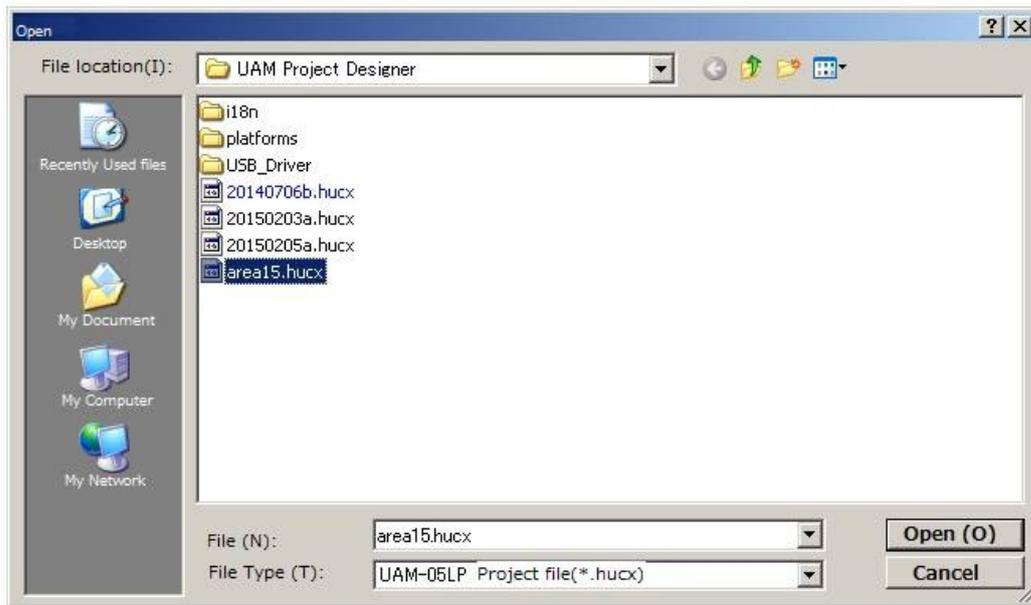

Figure 7-53 Save project file
- c) Dialog box will appear (Figure 7-53). Select the project file [\*\*\*\*\*.hucx] to open.